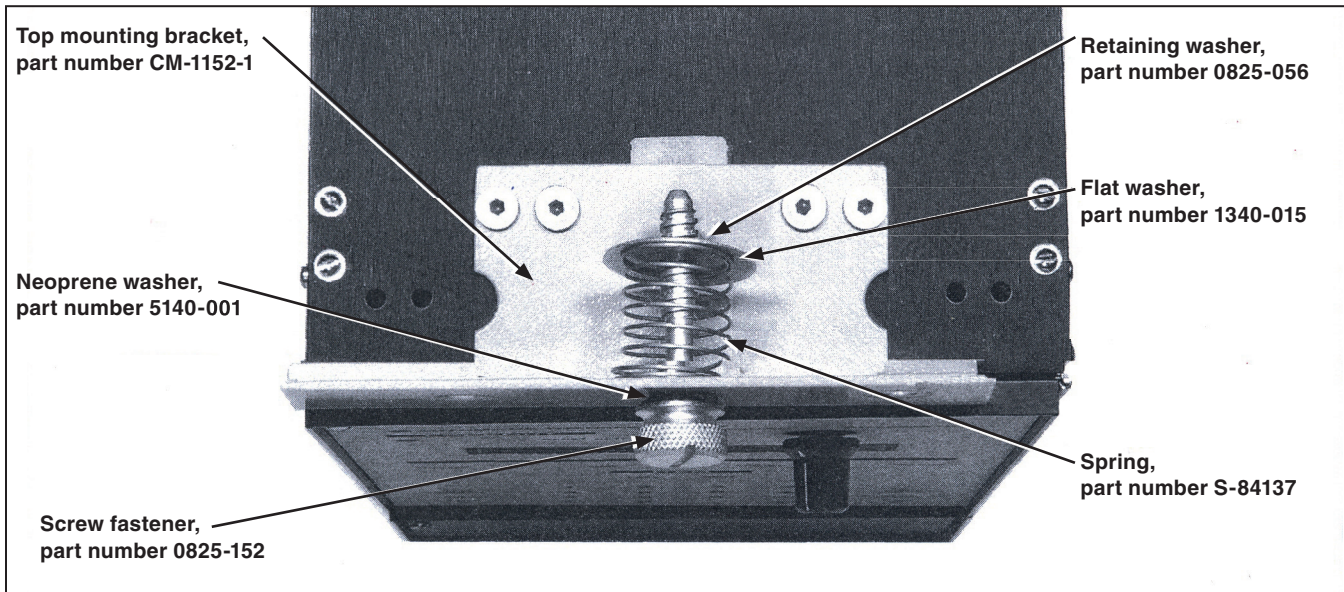

Figure 7. Attaching the screw fastener to the top mounting bracket.
STEP 4. Attach to the top mounting bracket, screw fastener, part number 0825-152; Neoprene washer, part number 5140-001; spring, part number S-84137; and flat washer, part number 1340-015, using the retaining washer, part number 0825-056 (furnished in the retrofit kit). See Figure 7 on page 12.